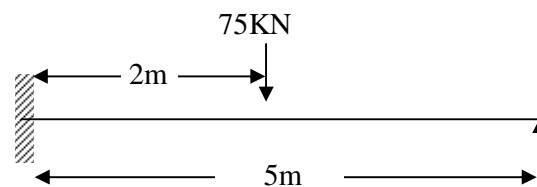

Figure 1
1. Find the support moment for the propped cantilever loaded as shown in Figure 1 if the support rotates clockwise by 0.003 radians. $EI = 1.5 \times 10^6 \text{ kgm}^2$